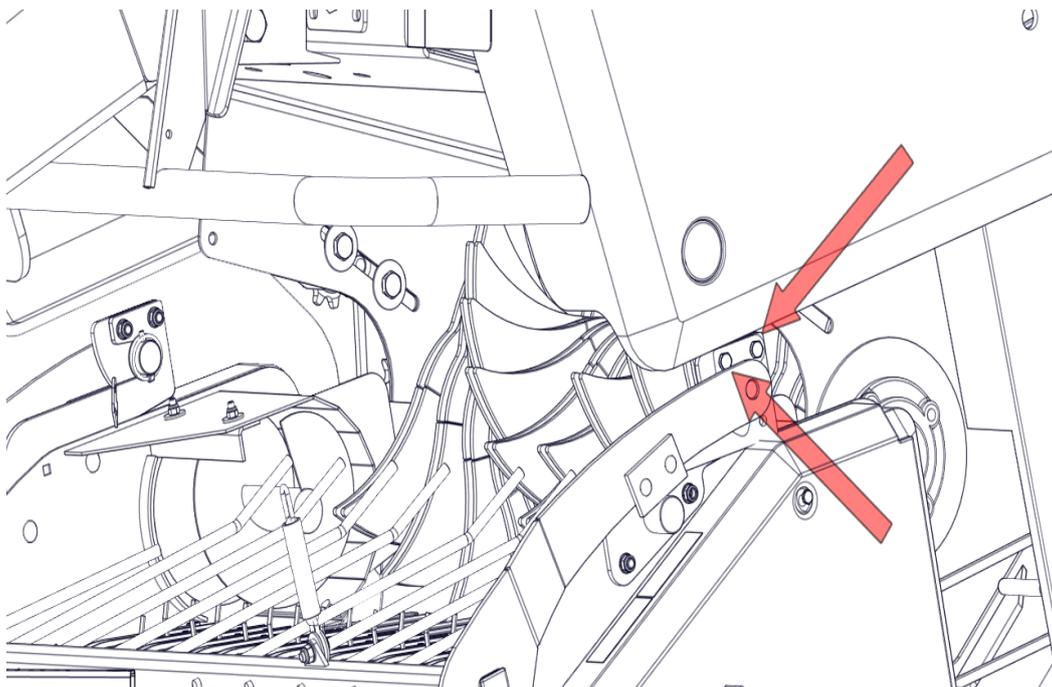

Figure 8. Windrow clamp dismantling
- Remove the windrow clamp to remove the material in the front section. To do so, loosen the bolts that lock the windrow clamp and remove the chain (Fig. 8);